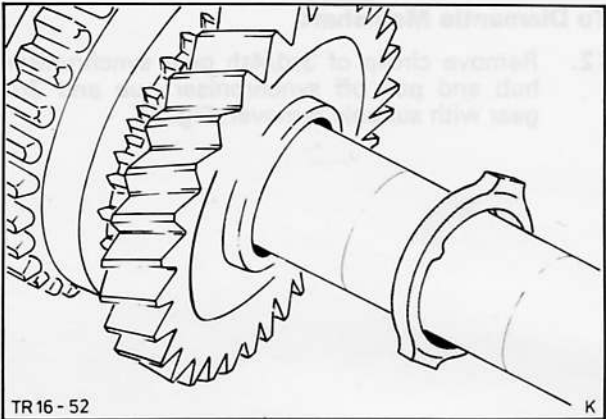

Fig. 78. Remove oil scoop ring and 1st gear
17. Remove oil scoop ring and 1st gear, Fig. 78.